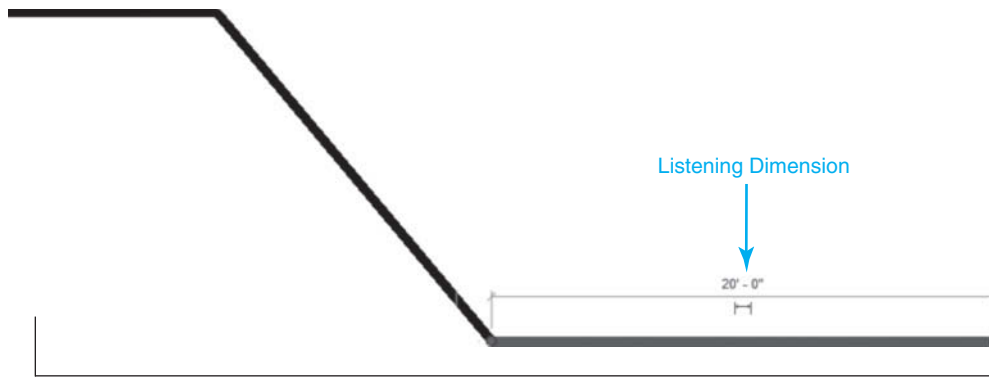

Figure 2-34
15. Press the **<Esc>** key to finish the command, or move your cursor to a new direction and repeat with another value (see Figure 2-34).